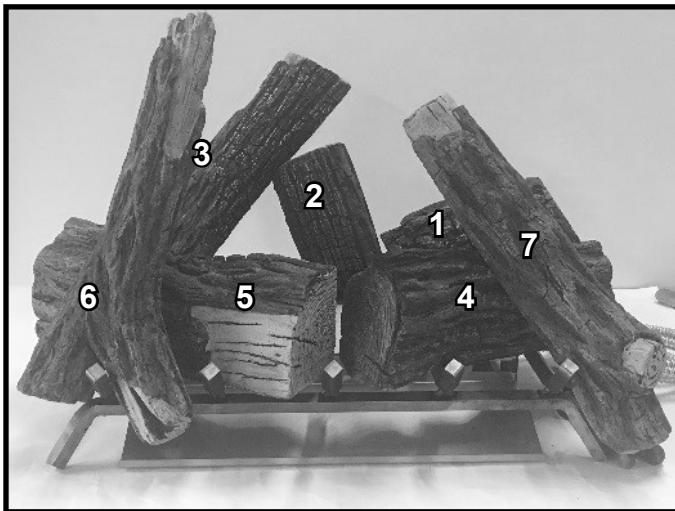

Figure 8. Install Log #7
8. Log #7 has a hole located on the back which will engage with the pin located on the right front log (Log #4). This log has a notch on the lower left side which will contact the outside of the right grate tine as shown in Figure 8.